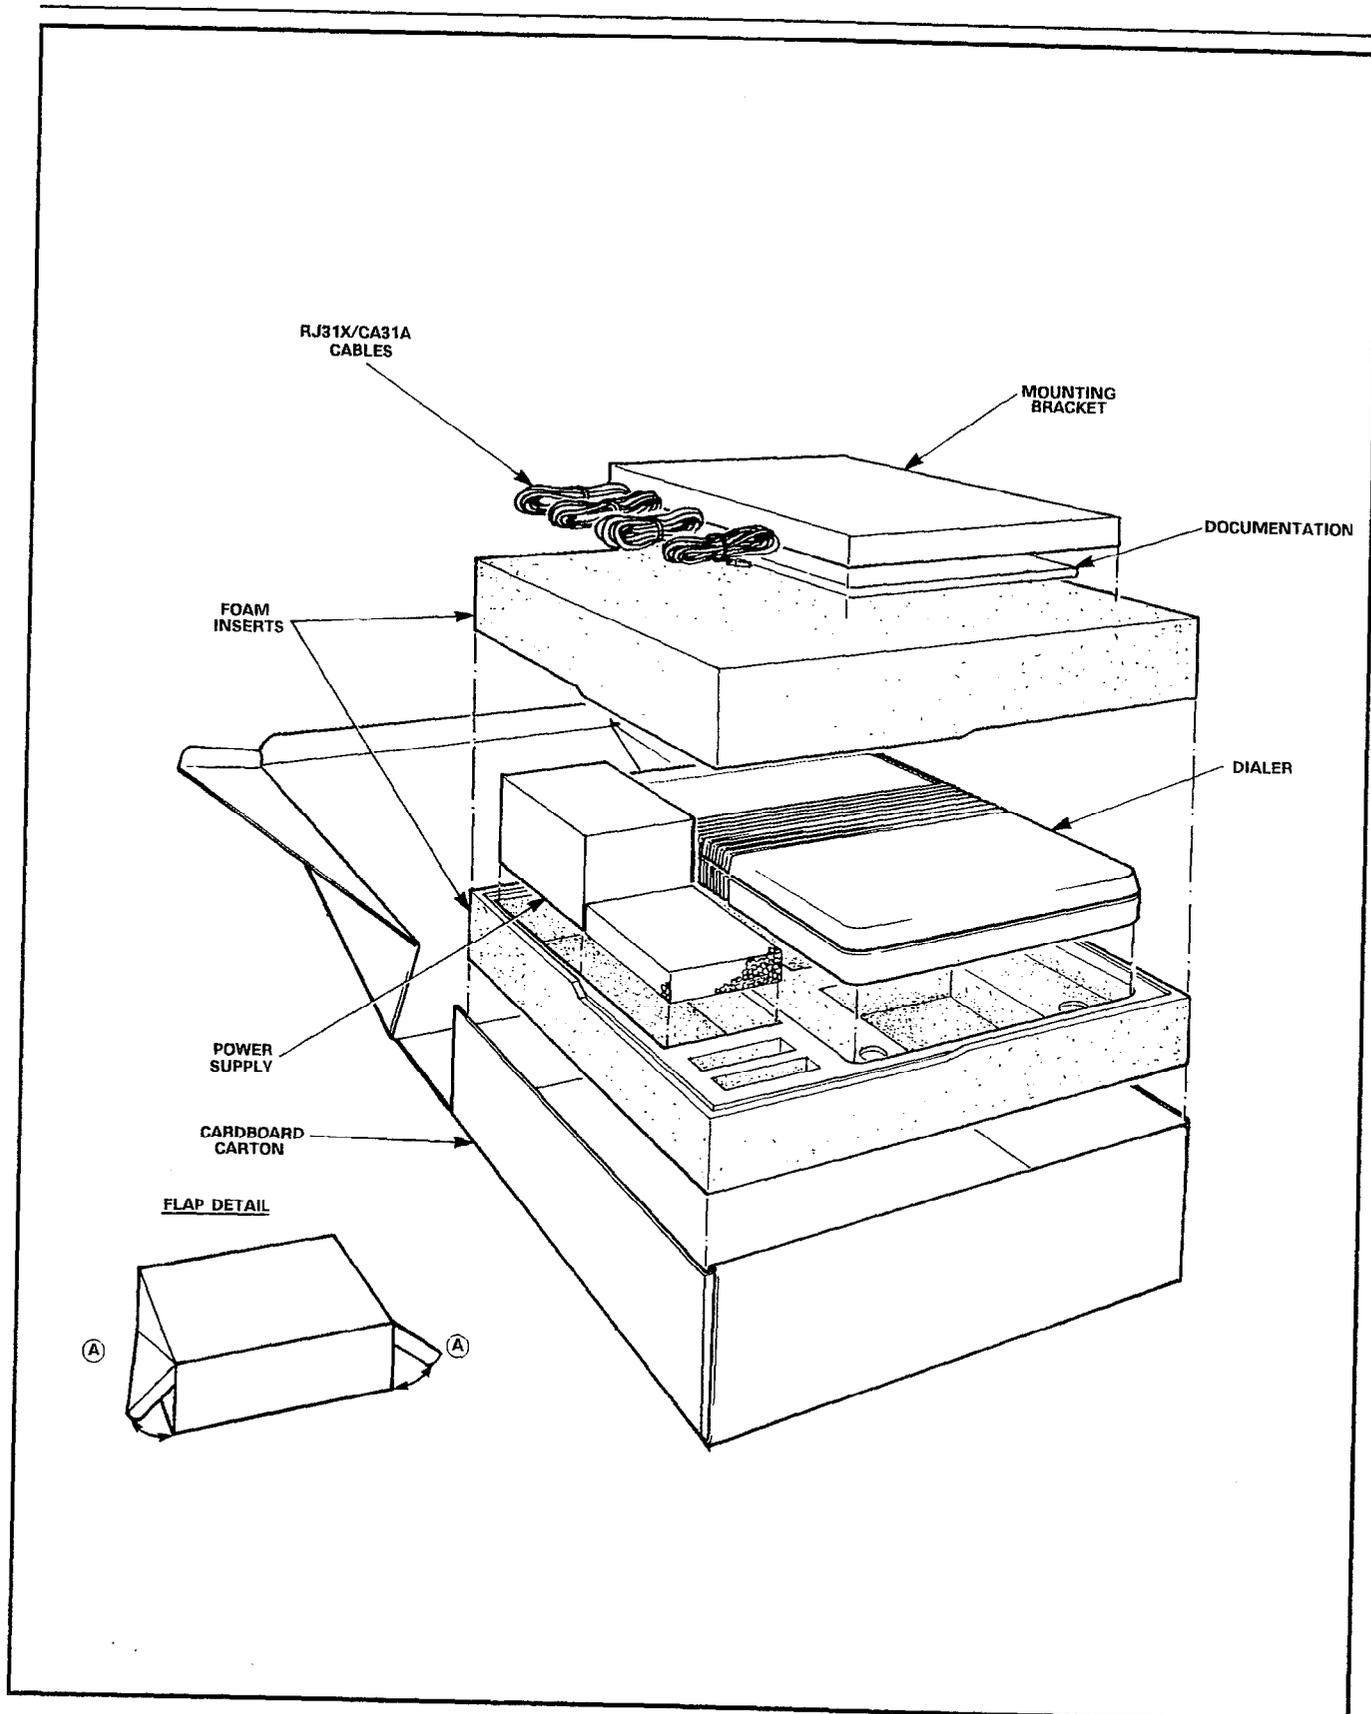

Figure 4-1, Equipment Unpacking and Repacking
4.03 The procedure below lists steps to take when unpacking the equipment (refer to Figures 4-1 and 4-2):
4.04 If an item is found to be defective or damaged and is to be returned to the vendor, it should be tagged and packaged to prevent damage. If units are to be shipped from one location to another, these units should also be packaged in such a manner as to prevent damage. Figure 4-1 shows how the equipment was originally packed. This method of packaging should be followed as closely as possible.